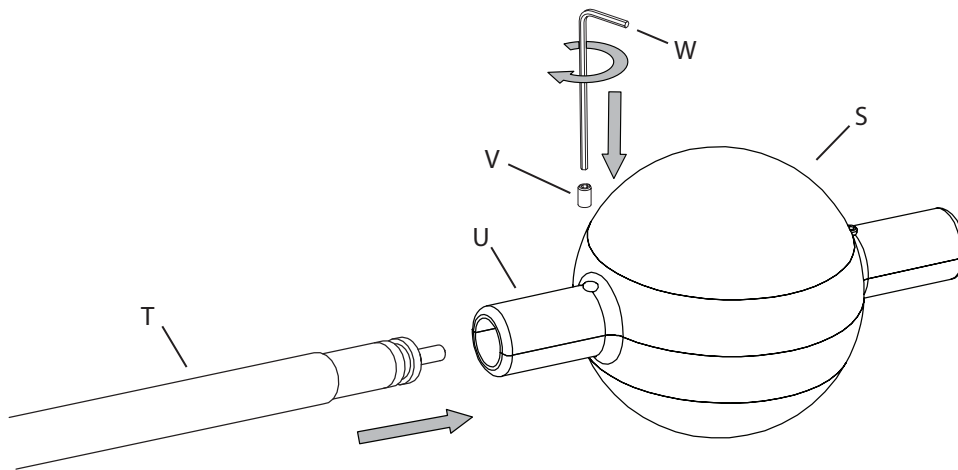

Fig. 2a
Attach a Hub (S) to the end of each Power Feed Cord (T) by fully inserting the Cord into a Neck (U) on the Hub (Fig. 2a) and installing the M2 Set Screw (V) into the Neck (U) of the Hub, using the Small Hex Wrench (W) provided, and tightening until it comes in contact with the plastic cap on the Arm. **CAUTION: Do not over tighten the set screws.**